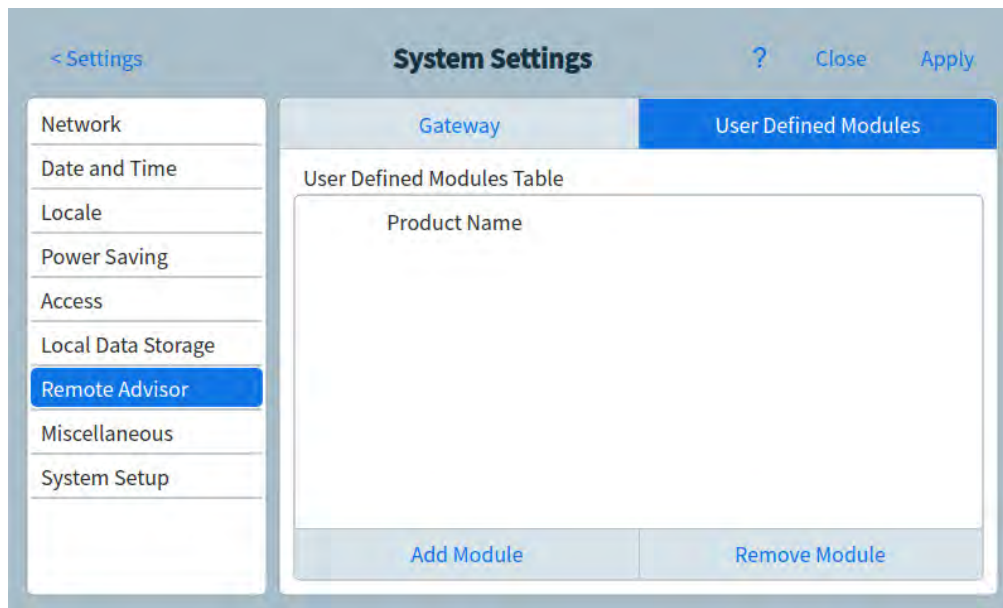

Figure 49. Remote Advisor page - User Defined Modules tab
- a Select the **User Defined Modules** tab. The **User Defined Modules** page appears. See **Figure 49**.